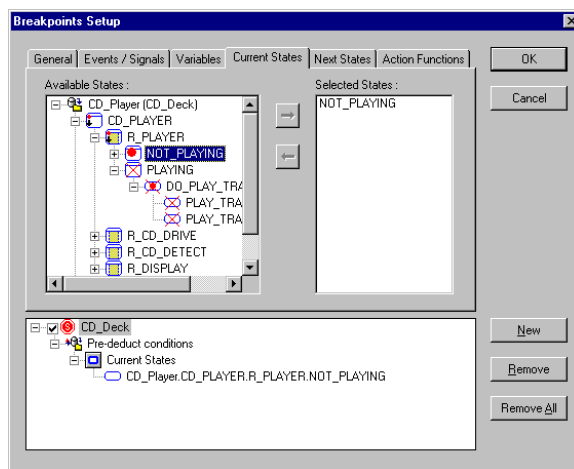

Figure 140: Breakpoints Setup dialog box, Current States tab (Validator)
- 1 Choose Edit>Breakpoints. In the Breakpoints Setup dialog box, click the Current States or Next States tabs. See *Figure 140*, page 173.